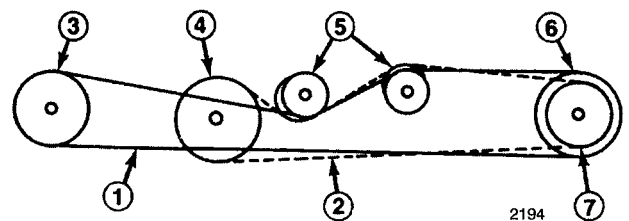

Figure 29
To replace traction or jackshaft belt, use the following procedures and belt routing diagram (Fig. 29).
3. Install belts, route traction belt over transmission as shown (Fig. 29).